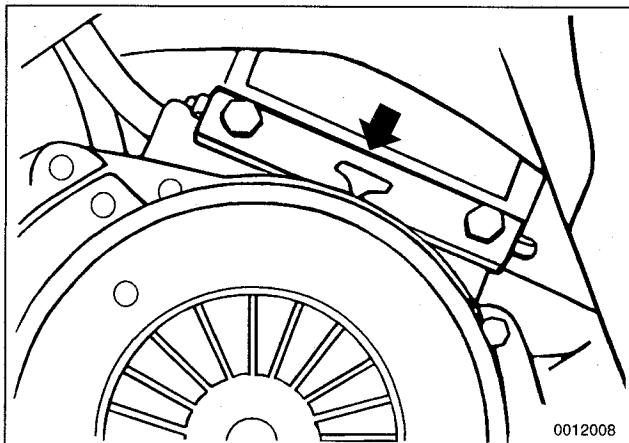

Fig. 6. Flywheel locking tool (arrow) installed to rear of cylinder block.
4. Lock flywheel in position using a suitable locking tool (BMW Special tool no. 11 2 170, or equivalent). See Fig. 6.